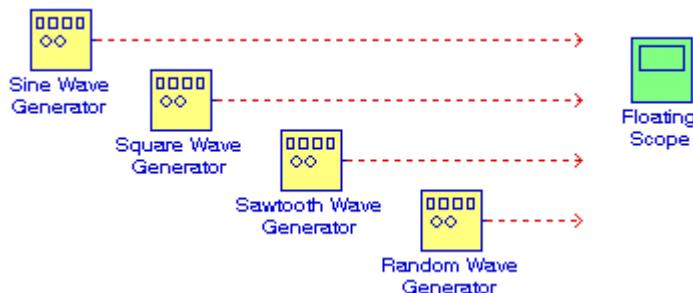

Figure 14.8. Model for Example 14.5
The model shown in Figure 14.8 displays a sine waveform, a square waveform, a sawtooth waveform, and a random signal waveform on a single Floating Scope block with four inputs. All four generators are Signal Generator blocks configured to produce and display the four different waveforms. Each specified set at 0.2 Hz frequency, and all other parameters were left in their default states.
2. We return to the model of Figure 14.8 and we select one or more signal (broken) line(s). To select multiple lines, we hold down Shift key while clicking another line.
3. To use a floating scope during a simulation, we must disable the signal storage reuse and block reduction optimization options. To disable them, we click **Simulation** on the model of Figure 14.8, we click on the **Configuration Parameters**, we click on the **Optimization** field (left side), and we deselect the **Signal storage reuse** and **Block reduction optimization** parameters.